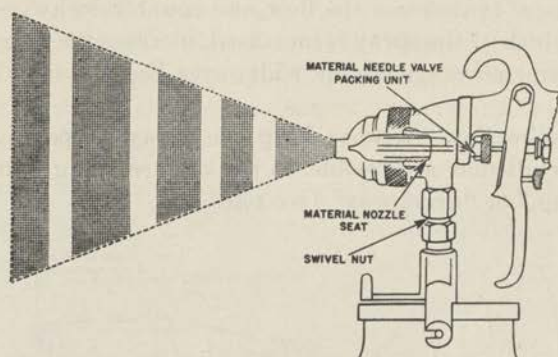

FIGURE 123.—Spitting.
e. How to correct spitting.—“Spitting” means the discharge of spray and air alternately (fig. 123). The three most prevalent causes of spitting are as follows:
(1) Dried out packing around the material needle valve which permits air to get into the material passageway and results in spitting. To correct this, back-up the knurled nut, place two drops of machine oil on